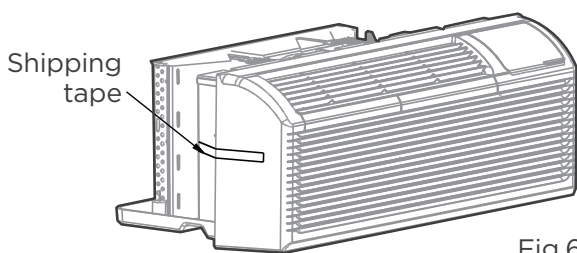

Fig.6
- Carefully remove shipping tapes from the front panel. (See Fig.6)